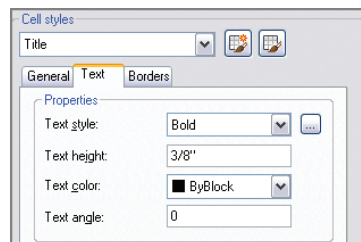

FIGURE 15.17 Editing the Title cell style text properties
- Select the Text tab within the Modify Table Style: Standard dialog box. Open the Text Style drop-down menu, and select Bold. Double-click the Text Height text box, and type **3/8"** (or **0.80 cm**) (see Figure 15.17).